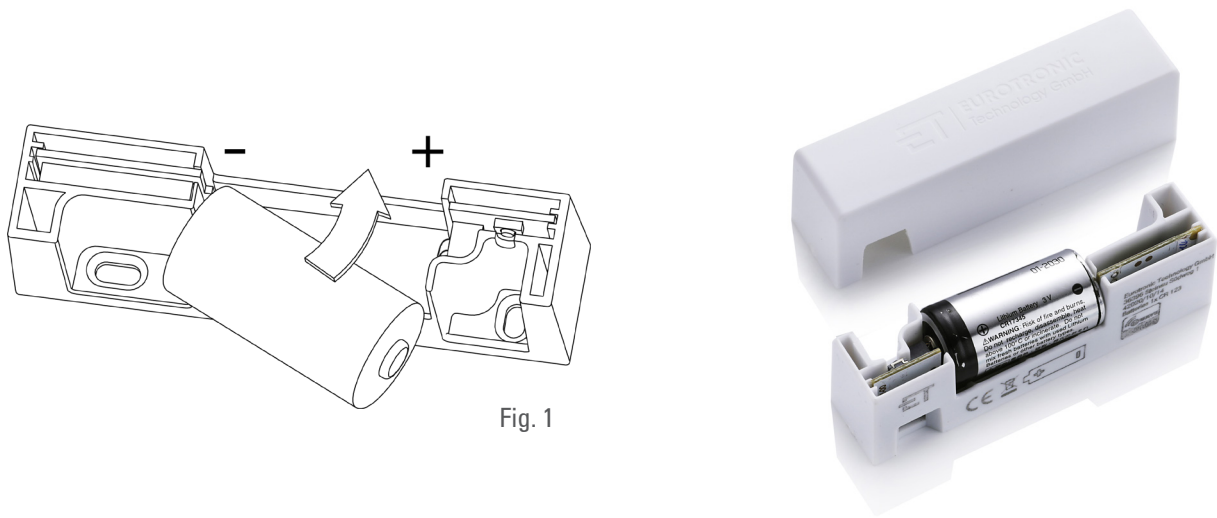

Fig. 1
2. Insert the battery into the housing. When inserting the battery, make sure that you insert the battery sideways (Fig. 1).